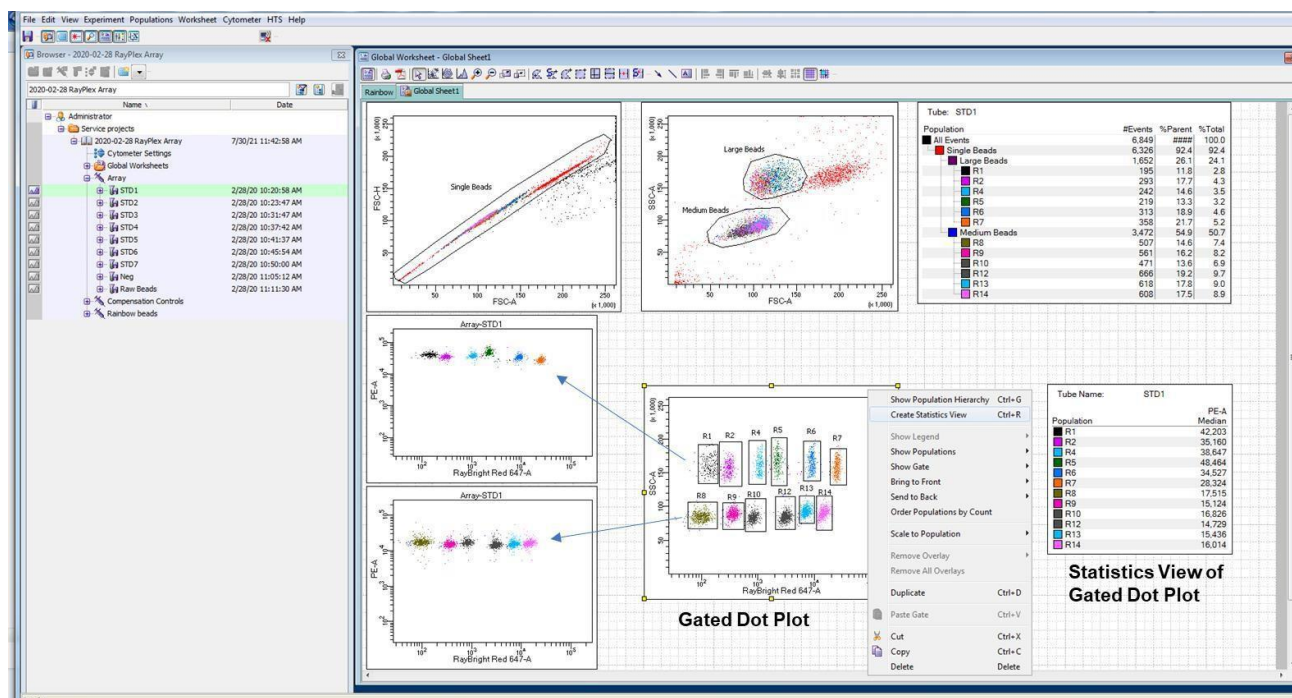
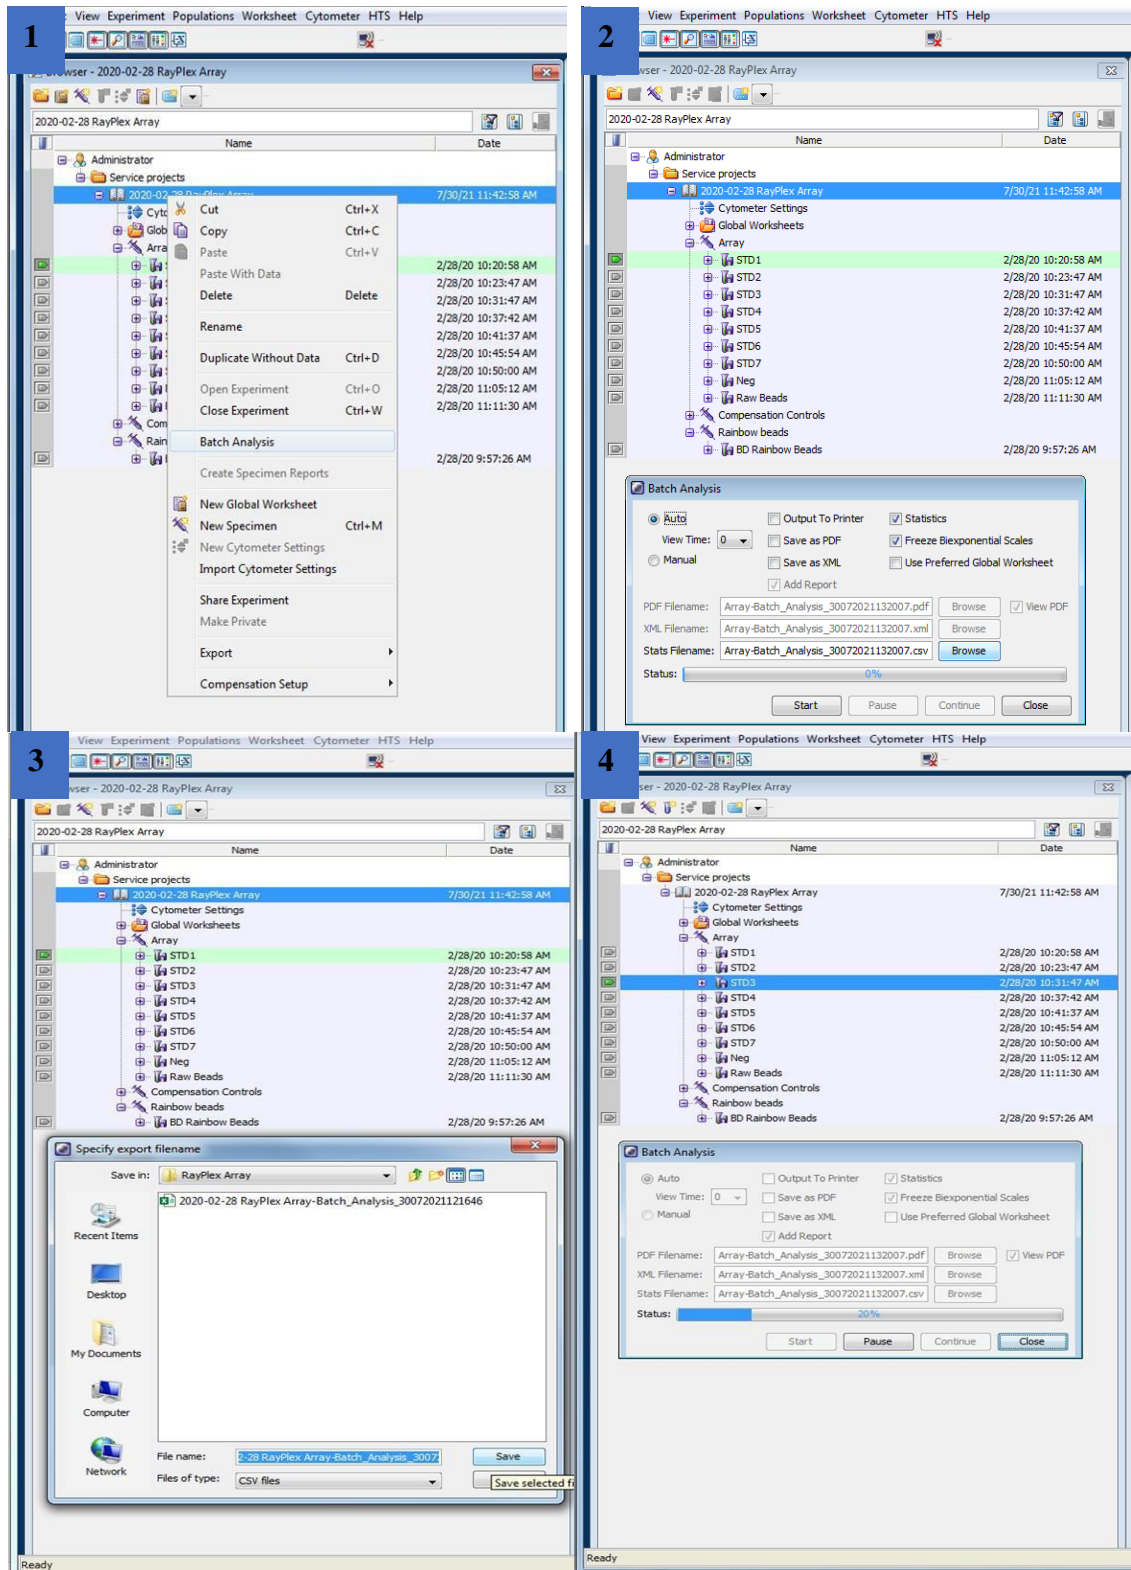

Figure 4. Screenshot of Creating Statistics View from the dot plot of gated beads populations. This is representative data only.
Figure 5. Screen shot showing how to begin the batch analysis through manual tube mode.
Batch analysis allows exporting PE MFI data of each bead population directly from FACS Diva. Before batch analysis, it's important to create statistics view from the dot plot of gated beads populations and choose "PE-A Median" to be shown (Figure 4). Batch analysis can be done in either manual tube mode or HTS mode. Both methods for batch analysis are described below (Figure 5 and 6).
1. Create a dot plot by SSC-A (linear) and APC-A (log) to show all beads populations and make a gate for each population (see figure 4, "Gated Dot Plot", R1~R14). Right click on the dot plot to "Create Statistics View", then edit the statistics view so that "PE-A Median" of gated beads populations are shown (figure 4, "Statistics View of Gated Plot").